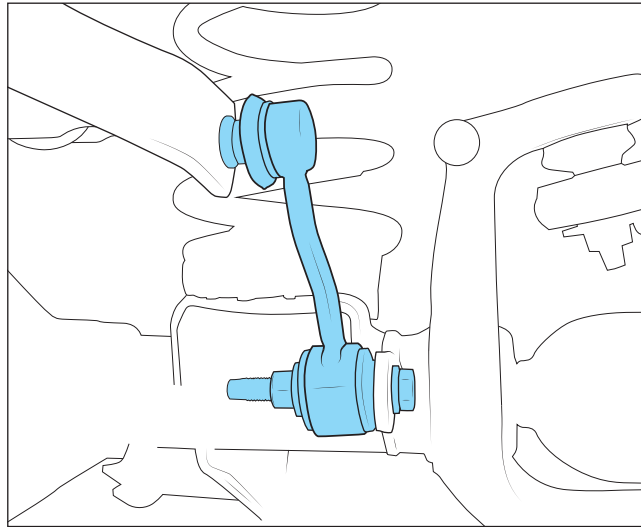

Figure 13
5. Remove sway bar end links. SAVE lower mounting hardware (fig. 13).